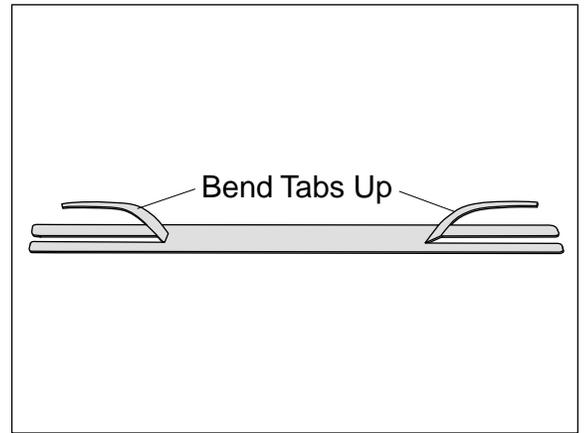

Figure 6
1. Bend tabs to provide a  $\frac{1}{2}$ " dead air space between exhaust pipe and heat shield (Figure 6).